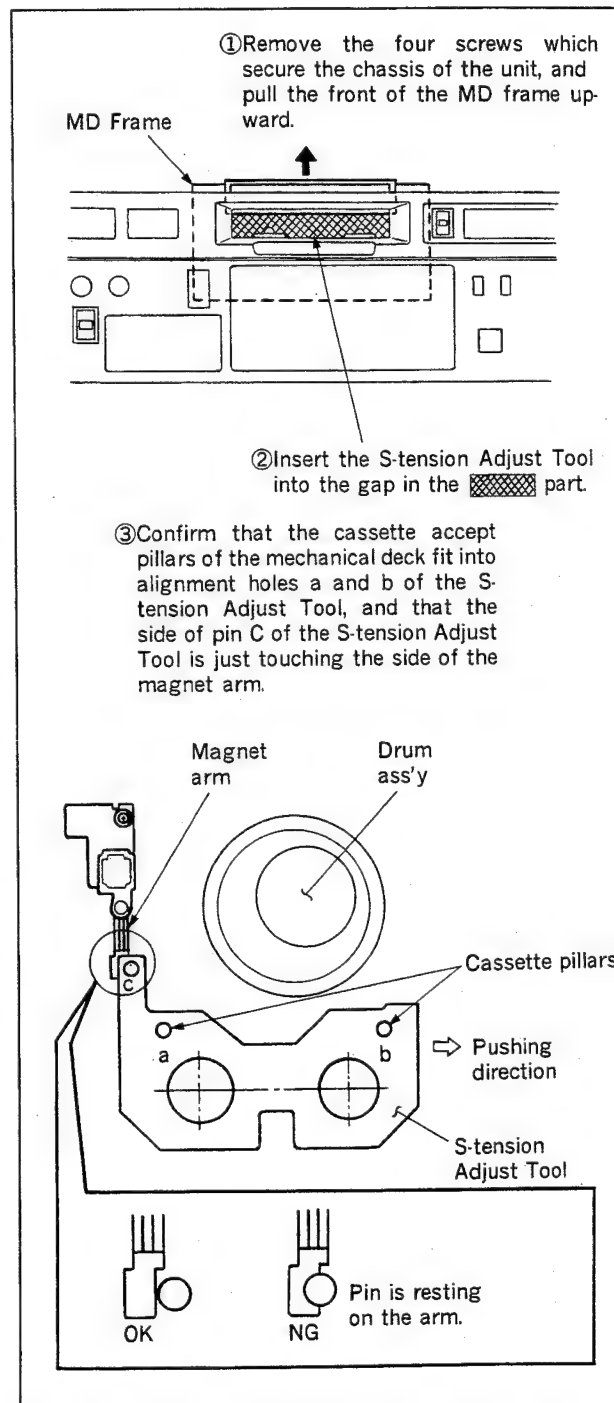

Fig. 5-6-1 How to Set the S-tension Adjust Tool
- (1) Confirm the unit is in the UNLOADING state by turning the POWER switch ON.
- (2) Install the S-tension Sensor Adjust Tool in the order of ①, ② and ③ in Fig. 5-6-1, on the Mechanical Deck (push the tool to the right so that remove the horizontal play.)
- (3) Short between TP904 and TP905 on the SST-2AP board with shorting lead, and measure the voltage at TP802 ("A" volt). Remove the shorting lead, and confirm the voltage at TP802 ("B" volt) satisfies the specification.